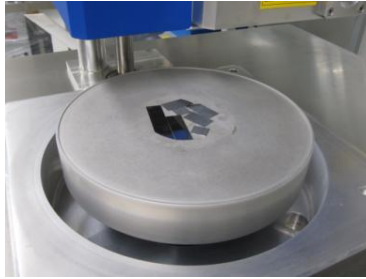

Figure 4: Substrate table and properly centered substrates
- i. Place sample on the holder plate (Fig. 4)